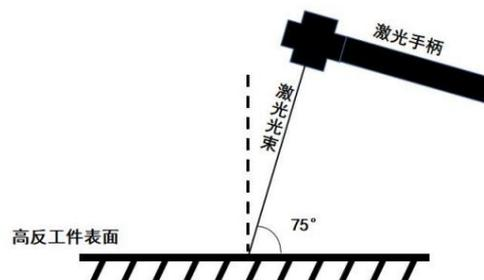

Figure 26 Schematic diagram of hand-held head angle
1. Tilt the cleaning head. At this time, the angle between the light emission angle and the highly reflective material must be less than or equal to 75 \bar{c} as shown in Figure 26 to prevent high reflection.